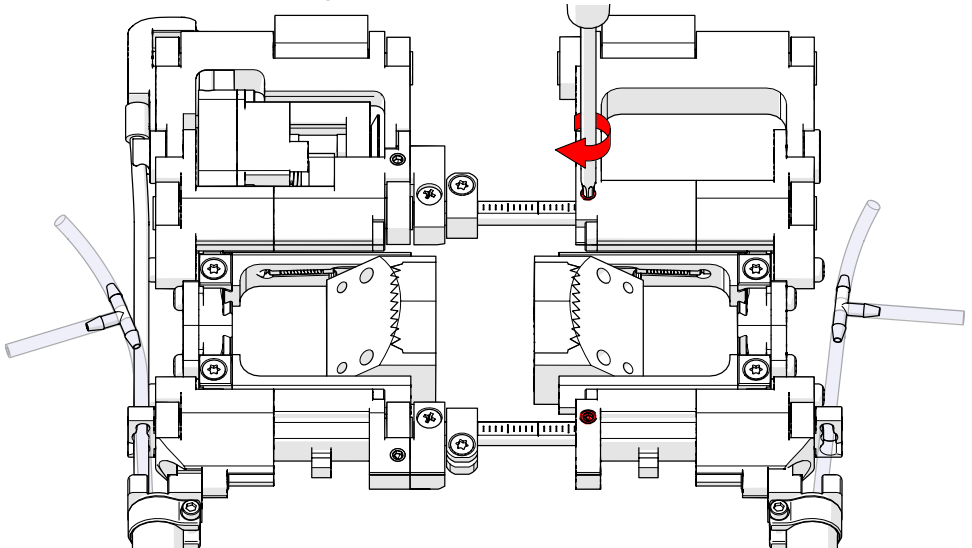

Fig. 72 - Tighten crossbar clamp screws
6. Ensure alignment of the scanner using the measurements on the crossbar and tighten the crossbar clamp screws (Fig. 72).